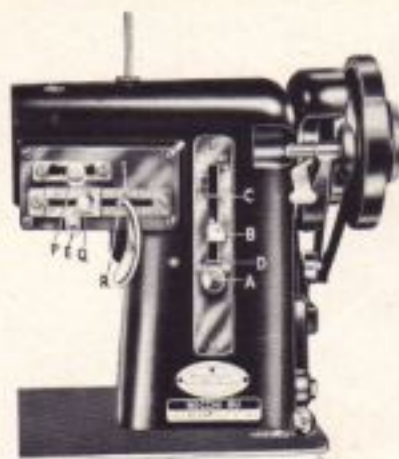

Fig. 22
Should one, however, wish to do *straight stitching* only, the aforementioned needle plate and presser foot can be replaced with a Straight Stitch Needle Plate and Straight Stitch Hinged Foot, which are also furnished with the machine. In such cases the position lever "P" (see figure 22) should be set in left notch.
1. Set position lever "P" (Figure 22) in left notch.
(See Figure 22 for reference.)
1. Set position lever "P" in center notch (Figure 22).
2. Set lever "B" (Figure 22) as close to zero mark as possible, and still allow the material to feed.
3. Set zig-zag stitch lever "R" (Figure 22) for desired stitch width.
1. Set zig-zag stitch lever "R" between #1 and #2 (Figure 22).
1. Set lever "B" for "satin" stitch (Figure 22).
3. Set zig-zag stitch lever "R" (Figure 22) between #1-2.
2. Set zig-zag stitch lever "R" at #2 (Figure 22).
3. Set zig-zag stitch lever "R" at #1 (Figure 22).
2. Set position lever "P" in center notch (Figure 22).
1. Set position lever "P" in right notch (Figure 22).
2. Set zig-zag stitch lever "R" on #4 (Figure 22).
3. Adjust zig-zag stitch lever "R" (Figure 22) on zig-zag stitch scale, according to thickness of cord being used. Heavier cord requires a wider zig-zag stitch. Use closely spaced zig-zag stitches to make a heavy covered raised stitch.